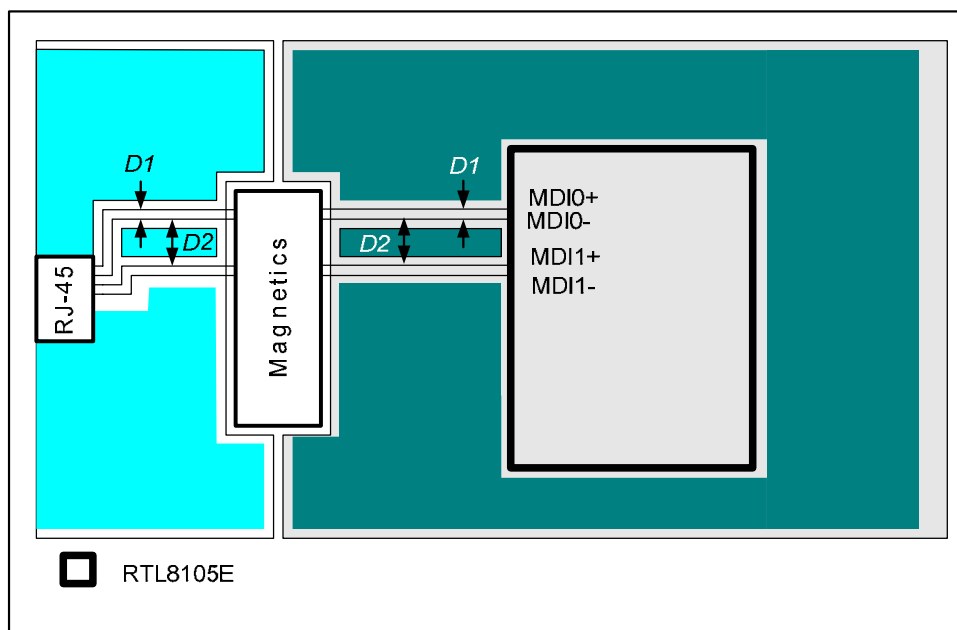

Figure 2. Signal & Trace Routing
- Traces routed from the RTL8105E-GR to the 10/100M magnetics, and to the RJ-45 connector, should be as short as possible. The 20cm maximum length between the RTL8105E-GR and magnetics is achievable only when there is no interference. It is also very important to keep all two differential pair signal traces (MDI0+/-, MDI1+/-) equal in length. The two traces of each pair should be placed close to each other (D1) since they are differential pair signals to each other and provide a strong cancelling effect on noise. The width of D1 should be calculated to have 100Ω impedance (Figure 2).
- We suggest that there should be more than 30 mil spacing between different differential pairs to minimize cross-talk coupled from other pairs (D2 in Figure 2). In addition, Ground Plane shielding can be used to separate all two signal pairs. However, a good layout should avoid the following situations: